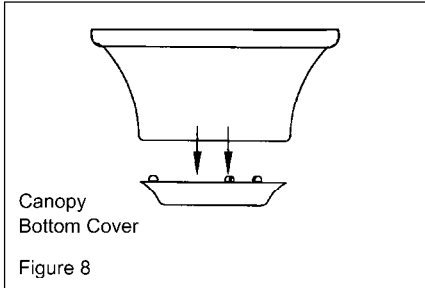

Figure 8
3. Remove the decorative canopy bottom cover from the canopy by depressing the three studs (Figure 8).